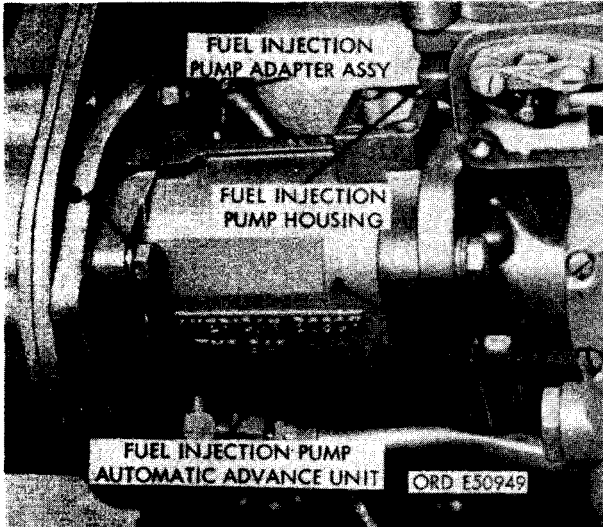

FIGURE 70. DISCONNECTING OR CONNECTING FUEL INJECTION PUMP AT FUEL INJECTION PUMP ADAPTER UNIT.
- (17) Figure 70. (A) Remove 3/8-inch plain nut and 3/8-inch lock washer from stud extending through the fuel injection pump automatic advance unit and flange of fuel injection pump housing. (B) Remove two 3/8 x 1-1/8 cap screws and 3/8-inch lock washers securing fuel injection pump assembly to fuel injection pump adapter assembly.